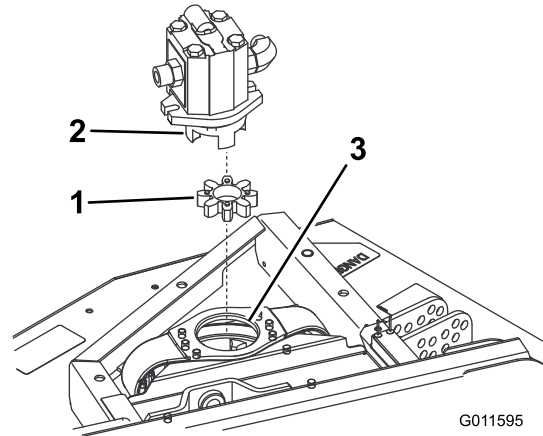

Figure 2
3. Remove elastomeric spider from inside pulley coupler. Inspect for wear and replace if worn. Otherwise, retain for installation on new front deck (Figure 2).
Note: Inspect spider hub for wear and replace if worn (Figure 2).